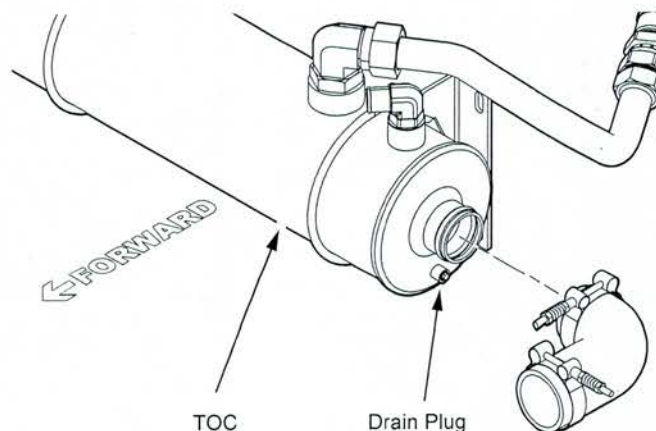

**Figure 2**
7. Remove the coolant bypass fitting from the TOC. Remove and discard the O-rings from the fitting and set the fitting aside for reinstallation (see Figure 2).
**Note:** Pay particular attention to the orientation of fittings, for reinstallation. Remove the O-rings from the fittings and discard (see Figure 2).